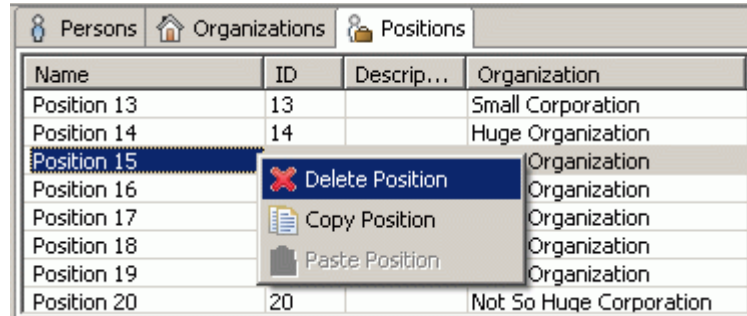

Figure 3. Context sensitive menu, Delete Position
- Right click on the  position, you want to delete, in the table list. A context sensitive menu appears (see Figure 3).